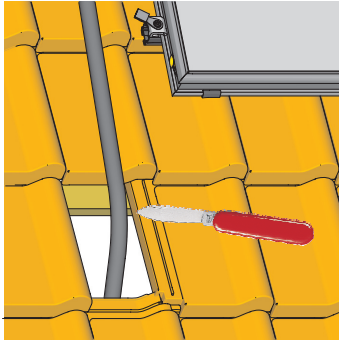

Fig. 3-29 Work step 7
7. Remove the thermal insulating hoses of the connecting pipes so that the pipes can be passed through the individual roof penetrations (Fig 3-29).